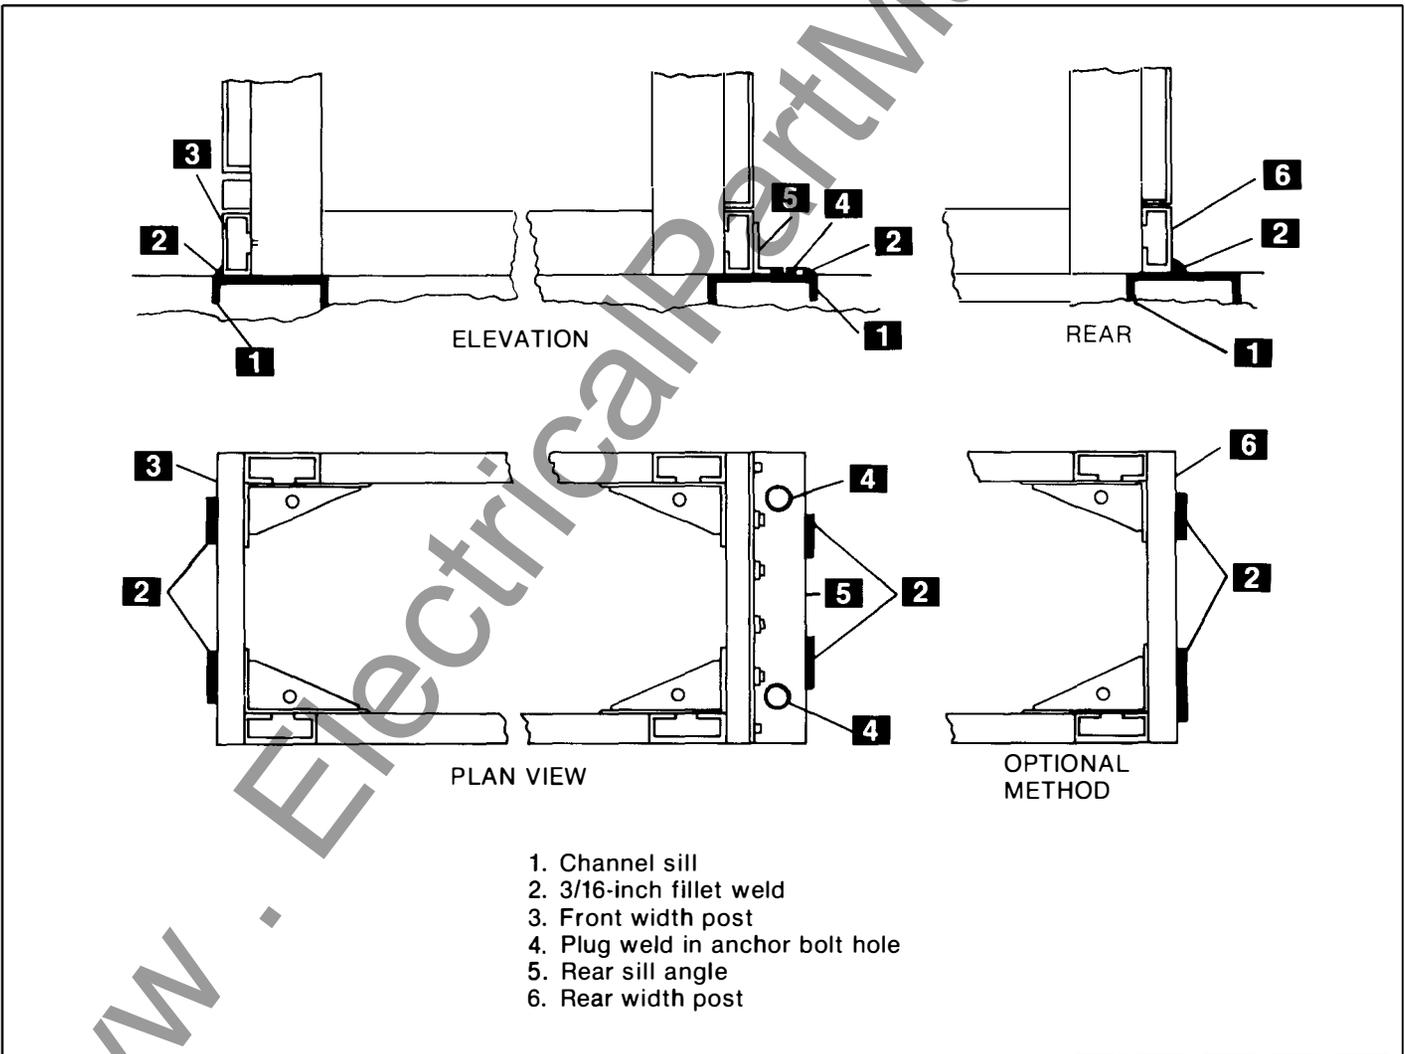

Fig. 4-19. Indoor equipment weld anchoring
2. ANCHORING BY WELD—An alternate method of anchoring the equipment to its foundation is to weld the equipment to floor sills (or the floor itself if constructed of steel). Several methods, shown on Fig. 4-19, are available to the purchaser for welding the equipment to the channel sills.
- a. *The front of the equipment* is attached to the embedded channel sills (1), Fig. 4-19, by two $\frac{3}{16}$ -inch fillet welds (2). It is recommended that two welds, each $2\frac{1}{2}$ inches long (min.), be used for each section to firmly tie the bottom width post (3) to the channel sill.
- The first method is by plug welds (4), Fig. 4-19, using the anchor bolt holes in the rear sill angle (5). The plug weld should receive a minimum $\frac{1}{8}$ -inch bead around the entire circumference of the anchor bolt hole.
- A second method of securing the rear sill angle (5) to the channel sill (1) is the use of two linear fillet welds (2) for each section. It is recommended that each weld be $2\frac{1}{2}$ inches long (min.) with a $\frac{3}{16}$ -inch fillet (min.).